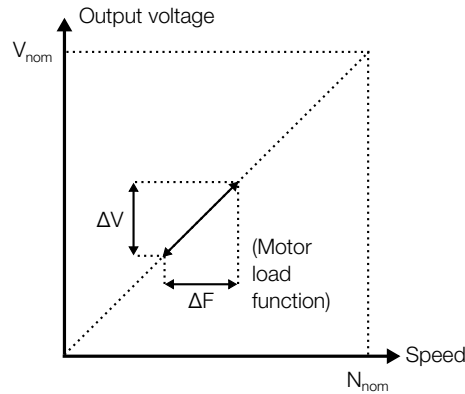

Figure 5.13: V/F curve with slip compensation
- In the vector mode (encoder or sensorless) parameter P0138 has the function described in Figure 5.13 on page 5-20.